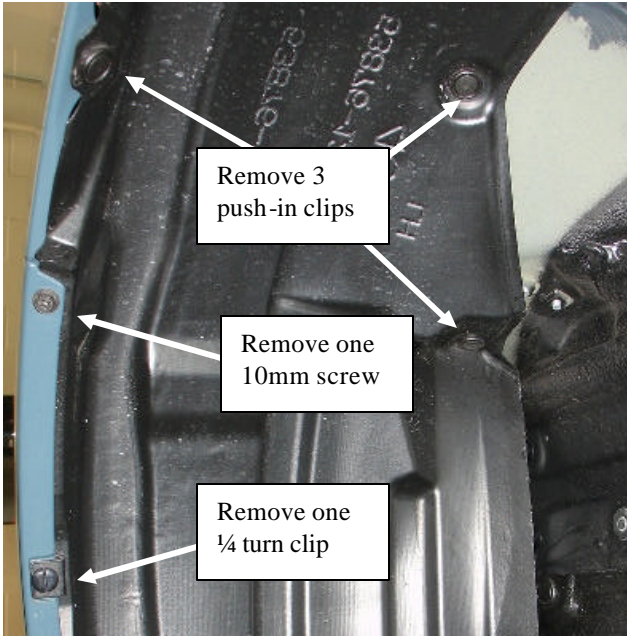

Fig. 3-9
- (a) Remove three push-in clips. (Fig. 3-9)
- (b) Remove one 10mm screw. (Fig. 3-9)
- (c) Remove one 1/4 turn clip. (Fig. 3-9)